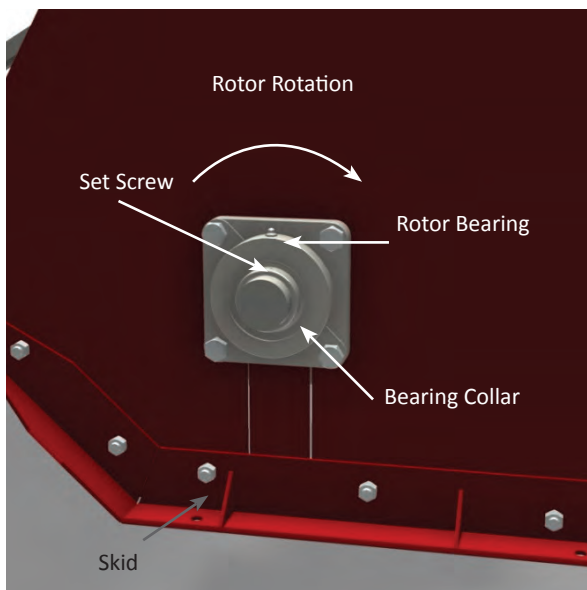

Figure 12: Rotor through Outside Wall
2. Rotor bearings. One fitting on each end of the rotor(s), see Figure 12.